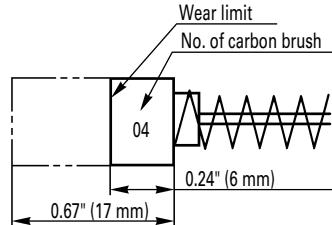

Fig. 23
## 4. Inspecting the carbon brushes: (Fig. 23)
**NOTE:** Use HITACHI carbon brush No.04 indicated in Fig. 23.